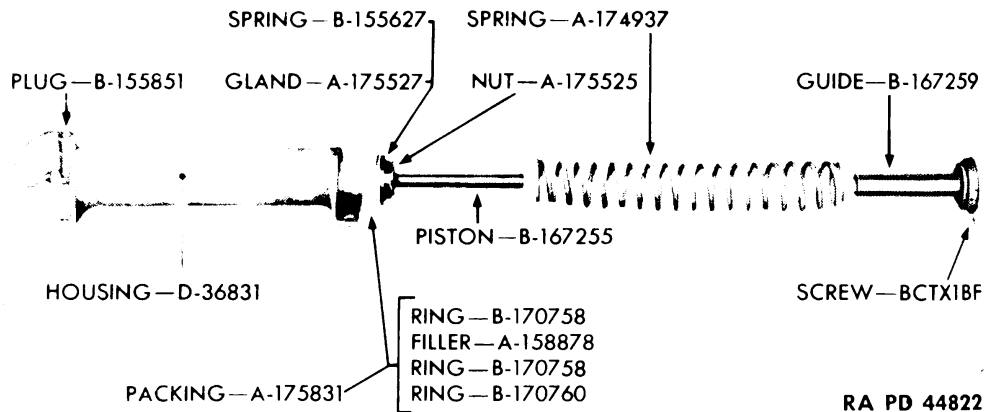

Figure 141—Replenisher—Exploded View
(1) If replenisher piston has been disassembled, place piston in a vise fitted with copper jaws. Place the following on the piston in order named: ring B170760, ring B170758, filler A158878 and new packing A175831, ring B170758, and gland A175527 (fig. 141). NOTE: Every time the replenisher piston is disassembled, the packing must be replaced.